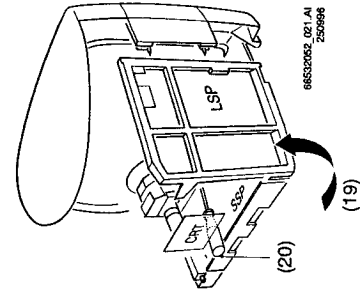
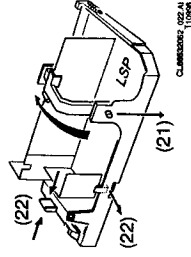

Figure 4.9
Figure 4.10
**Service position (LSP copper side) without table/workbench (Fig. 4.9)**
2. Lift the chassis from the bottom plate and turn it counter clockwise (19).
3. The SSP can be fixed with a screwdriver to the bottom plate (20). The copper side of the LSP can now be accessed.
**Small Signal Panel (Fig. 4.10)**
**Large Signal Panel (Fig. 4.10)**